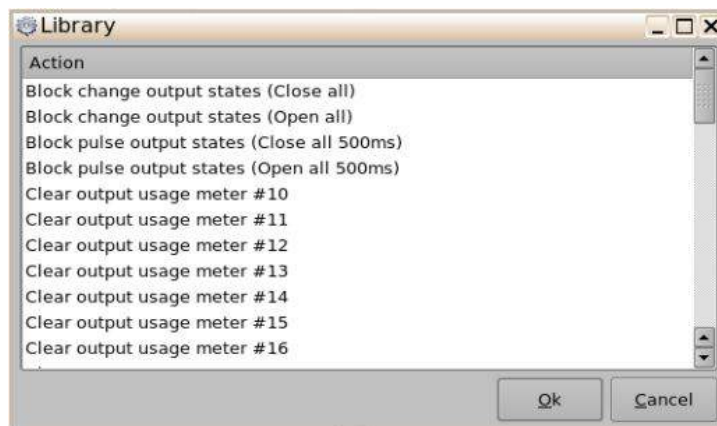

Figure 25: Library Action Window – Jnior w/Expansion Modules
- The user can select the actions to manage Jnior with expansion module products on the Library window (Figure 25).